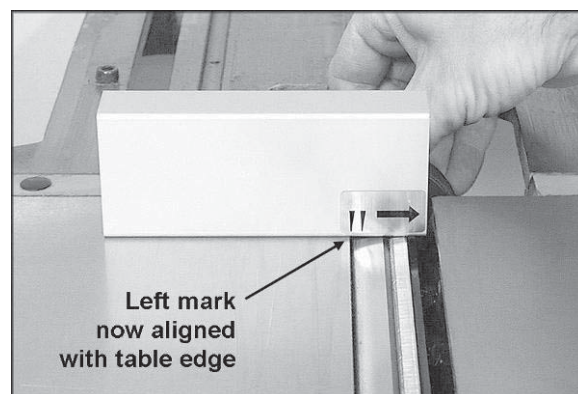

Figure 30 (straight cutterhead)
10. Rotate the cutterhead clockwise (by using the pulley). If table and knives are set correctly, the knife will contact the aluminum gauge and move the gauge until the left mark now lines up with the edge of the outfeed table, as shown in Figure 30.